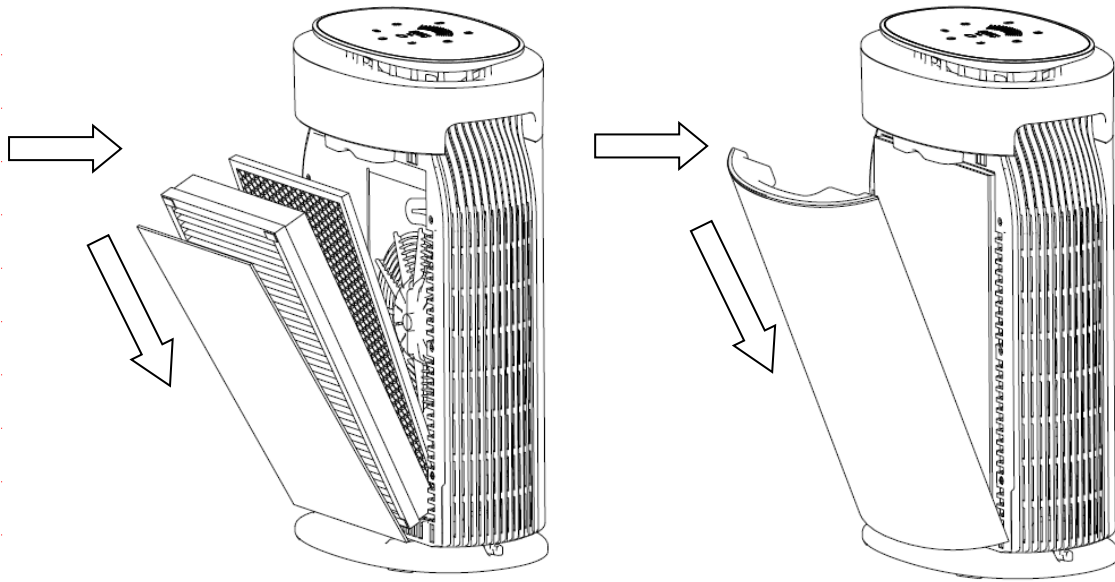

Figure 3
4. After the filter packing bag is removed, the activated carbon filter and the HEPA filter are sequentially installed in the direction indicated by the arrow. The sides of the activated carbon filter and the HEPA filter with pull rings are front. (Ie installation facing outwards, see Figure 3).
6. Hook the bottom of the panel with the front panel and install the front panel. Gently push each side of the product to confirm that the panel is fixed, and then secure the machine properly. (See Figure 3)